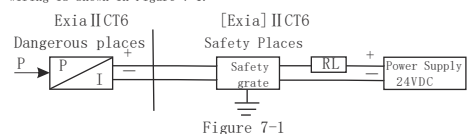

Figure 7-1
F) Essentially safe transmitters must be equipped with safety grids to be used in dangerous places with explosive mixtures. Safety grate shall comply with GB3836.4-2010 "Essential Safety Type I" of Electrical Equipment for Explosive Gas Environment Part 4, and shall be tested by relevant explosion-proof departments and obtained explosion-proof certificate. Installation shall be carried out in accordance with the requirements of the instructions. The system wiring is shown in Figure 7-1.